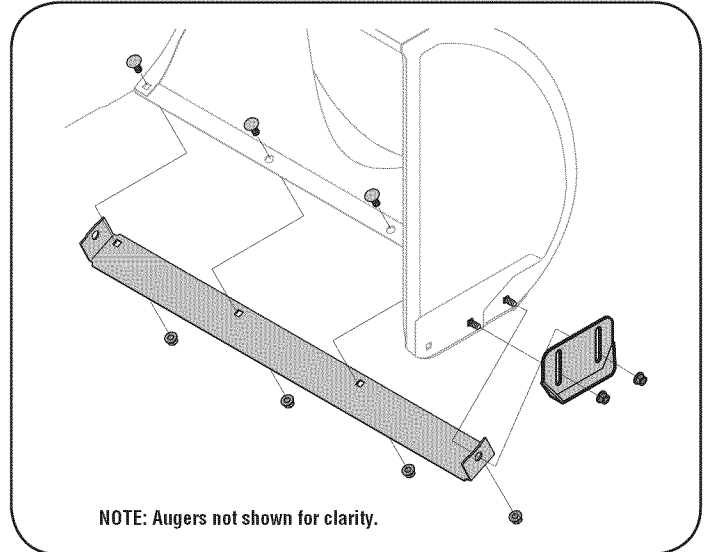

Figure 18
2. Reassemble new skid shoes with the four carriage bolts (two on each side) and hex flange nuts. Refer to Figure 18.
2. Reassemble new shave plate, making sure heads of carriage bolts are to the inside of housing. Tighten securely. See Figure 18.